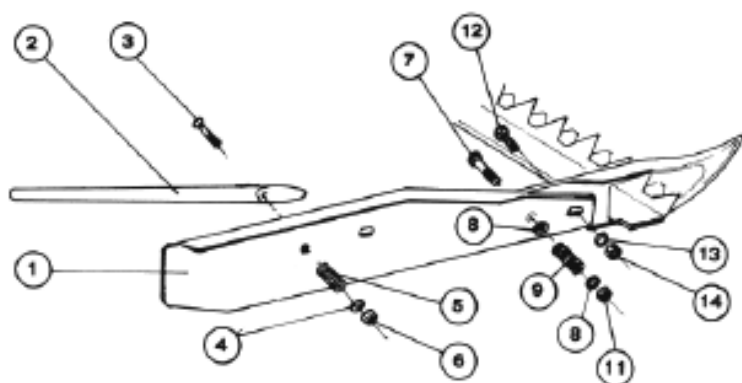

FIG. 3.3
4. Mount lateral deflector (1) (FIG. 3.3) and fasten with screws TE 12x50 (12), washer 12 (13) and self-locking nut 12 MA (14). Insert screw TE 12x90 (7), washer 12 (8), spring (9) and fasten with self-locking nut (11)